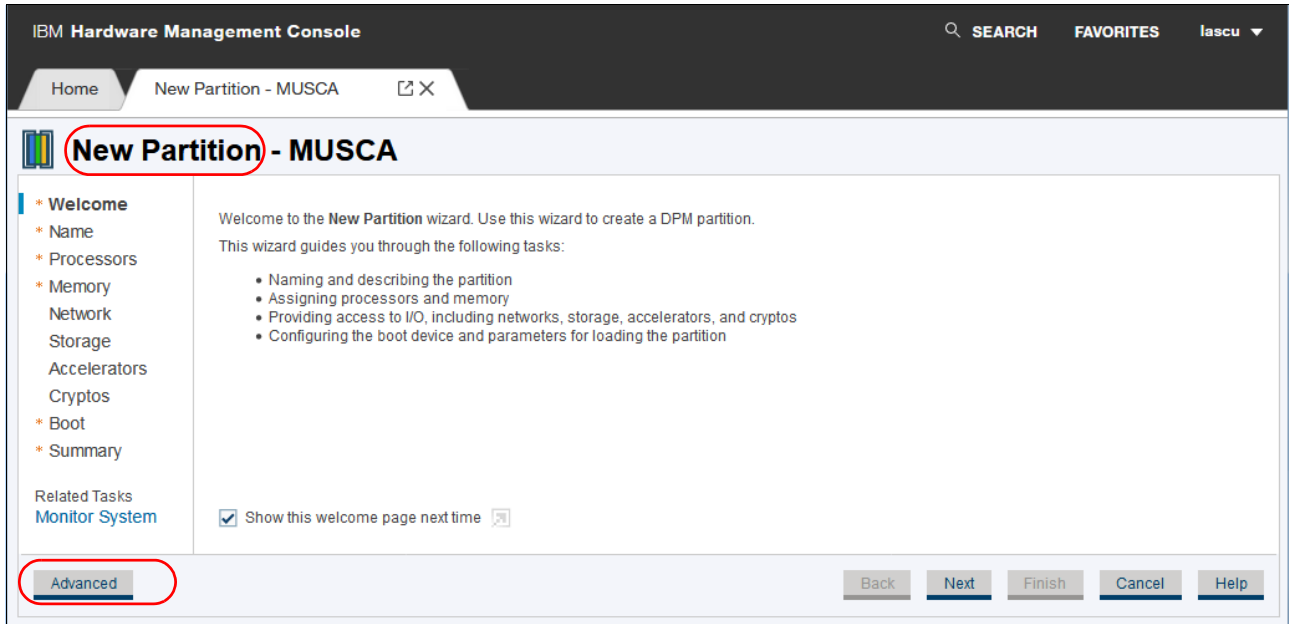

Figure 16-57 Initial menu for configuring partitions - selecting Advanced menus
1. Select the Advanced menus, as shown in Figure 16-57.